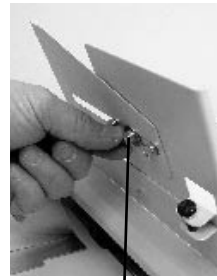

Fig. 8a
2. Adjust the side guides on the feeder for the proper paper size. Loosen the brass thumb screw, open or close the guides to fit the paper width and retighten the thumbscrew (Fig 8a).